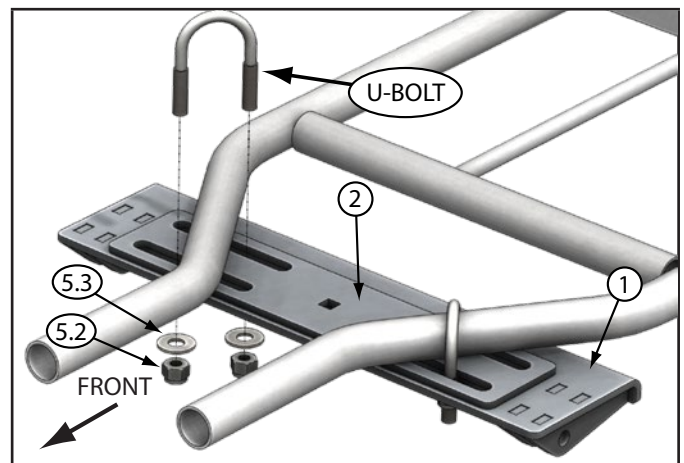

Figure 18 - Hybrid Mount Round Tube Install
- Optional: Place the upper mount plate on top of the lower mount plate as shown in Figure 18. This is not required but adds strength to the mount for less flex when plowing.